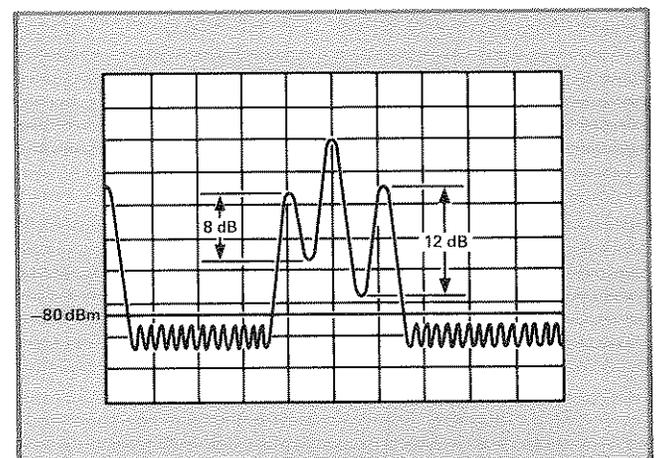

Figure 1. PEAKS reports only the peaks at the right.
Specifying a threshold (TH) value causes PEAKS to treat all lesser trace values as equal to the threshold. The peak excursion (MKPX) provides a way to establish the amount of superimposed noise to be ignored. A peak is confirmed only if data points exist on both sides of a candidate peak and if at least one point on each side has an amplitude less than the candidate peak by the peak excursion value. For example, performing PEAKS on the trace in figure 1, with a 10 dB peak excursion and a  $-80$  dBm threshold, yields the reporting of the two peaks at the right. The leftmost signal is without data points on both sides of it, and the next signal in does not have a peak excursion of 10 dB on both sides. Refer to line 170 of the sample program for examples of TH and MKPX syntax.